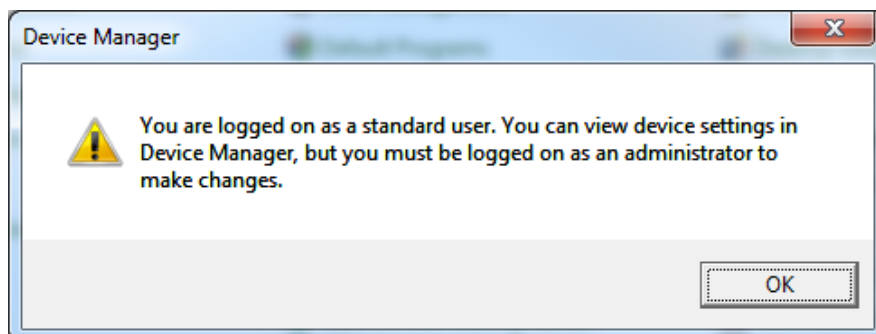

Figure 8.1. The device manager window showing you do not have administrator privileges.
2. If the workstation is running a Windows OS, open the “Control Panel” followed by opening the “Device Manager” window. If you do not have administrator privileges, you will see the window shown in Fig. 8.1. Click on the OK box to continue. Administrative privileges are not required to view the settings.